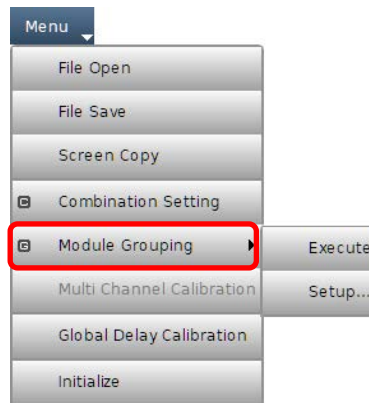

Figure 3.4.1-2 Menu > Module Grouping
2. In the **Grouping** dialog box (Figure 3.4-1), touch **OK**. This reflects the Slot 1 parameters subject to grouping to Slot2 and Slot3.